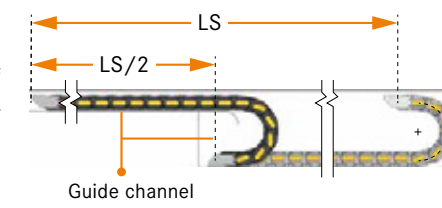

Fig. 1
- Supported applications where the cable chain is moving on a floor, inside a guide channel (Fig.1), for example in long travel distance applications